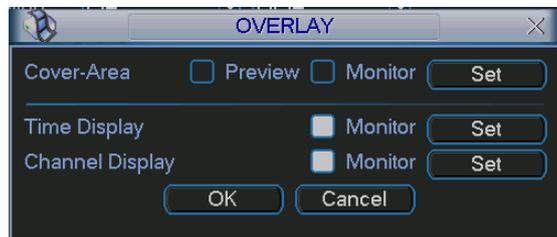

Figure 5-7
- Overlay: Click overlay button, you can see an interface is shown in Figure 5-7